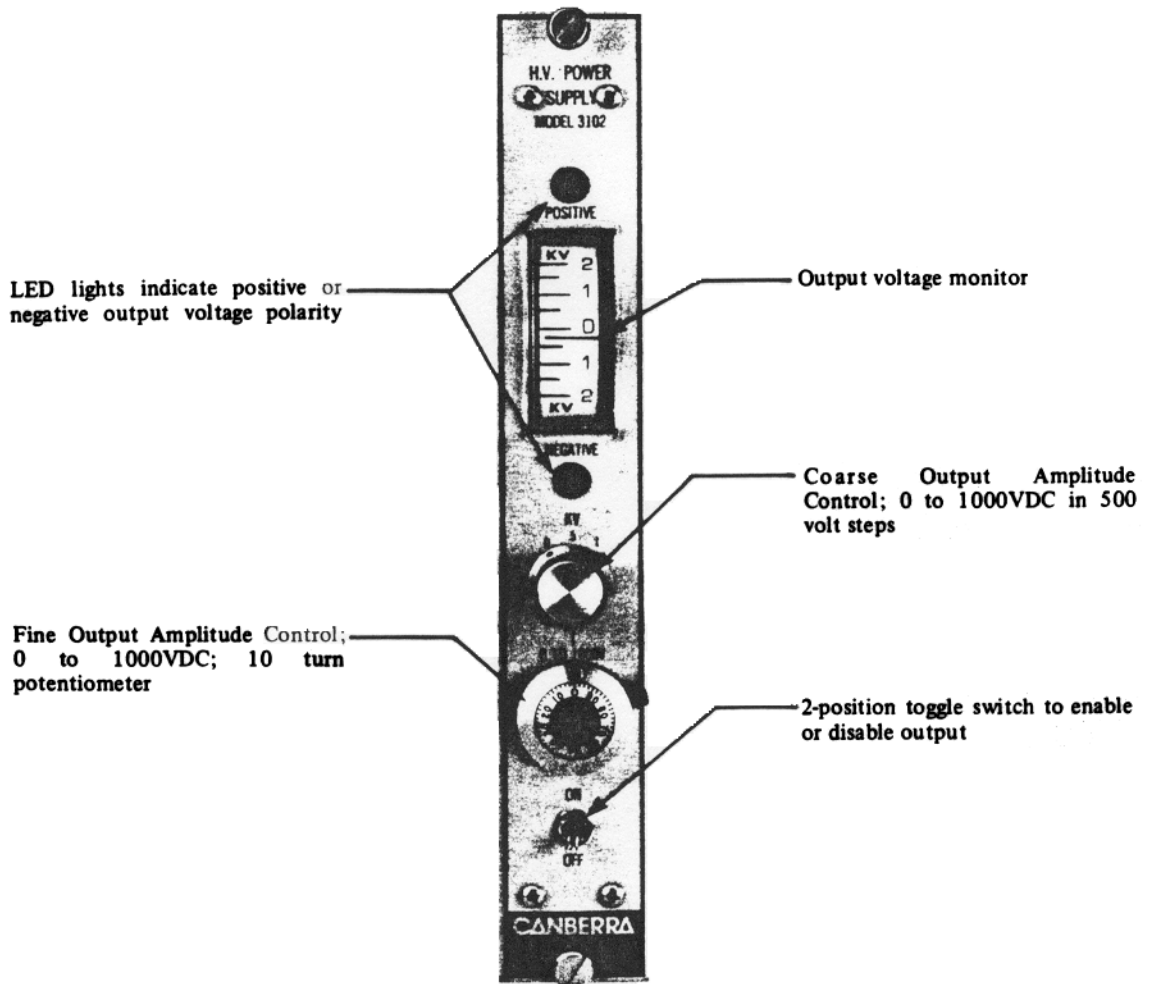

Figure 3-1. Front Panel Controls.
3.2 FRONT PANEL (Refer to Figure 3-1)